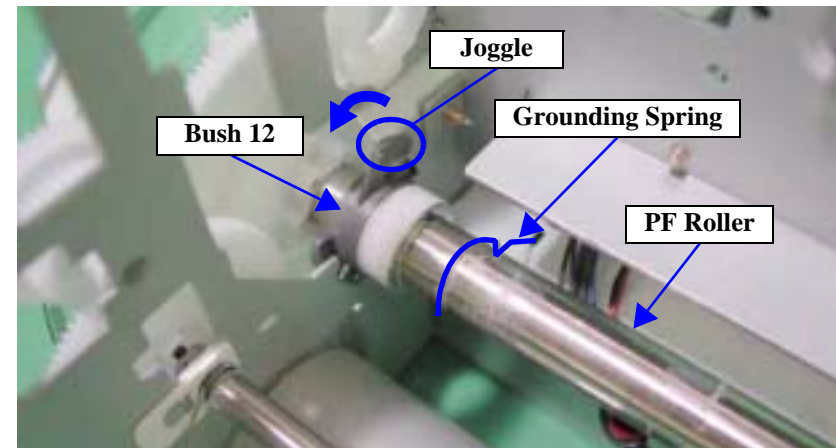

Figure 4-128. Removing the PF Roller
- Since the joggle of the Bush 12 is easily damaged, fully be careful when removing and reinstalling it. Refer to Figure 4-128, "Removing the PF Roller".
- When removing the PF Roller, fully be careful not to scratch the PF Loop Scale. Refer to Figure 4-128, "Removing the PF Roller".
- When handling the PF Roller, wear gloves since the paper loading accuracy will decline if you touch its surface directly with bare hands. Refer to Figure 4-128, "Removing the PF Roller".
- When cleaning the surface, use a soft, clean brush. Refer to Figure 4-128, "Removing the PF Roller".